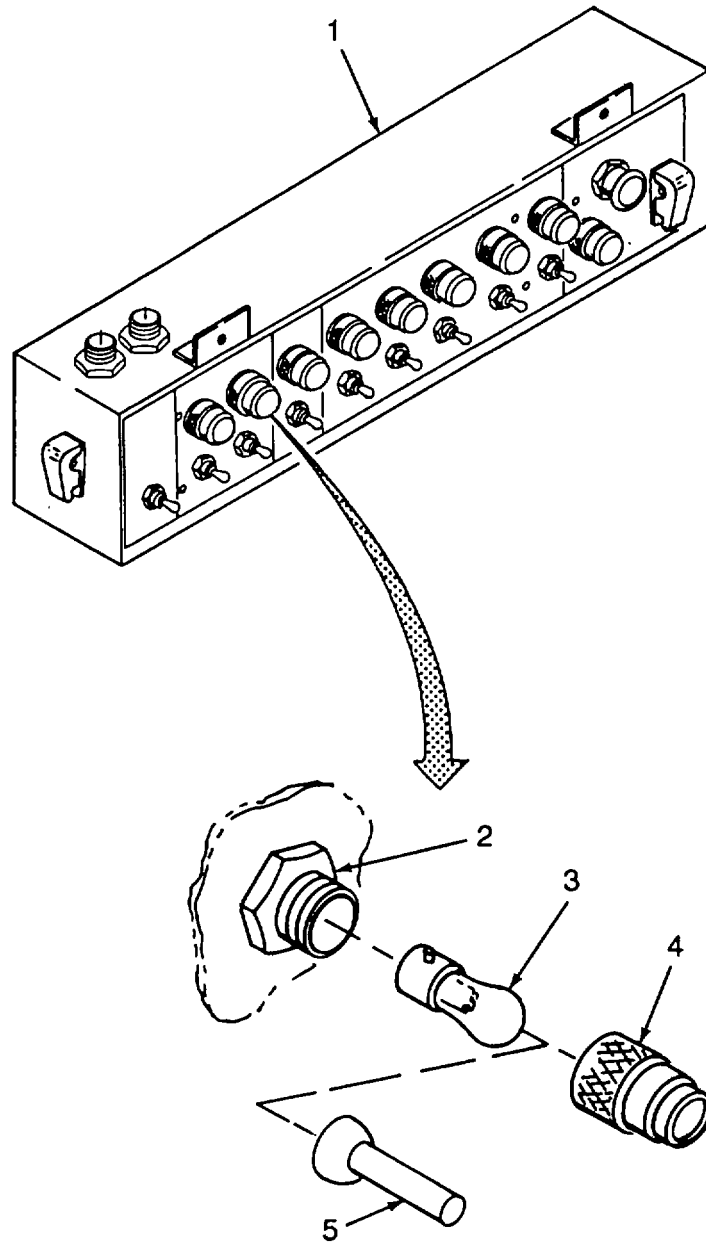

Figure 3-9. Switch Indicator Lamp Replacement.
a. Removal. Refer to figure 3-9.
(1) Remove lens cover (4) from lamp socket (2)
(2) Using lamp extractor (5) from storage chest, remove lamp (3) from socket (2) on control box (1).
b. Installation. Refer to figure 3-9.
(1) Using lamp extractor (5), install lamp (3) in lamp socket (2) on control box (1).
(2) Install lens cover (4) on lamp socket (2).